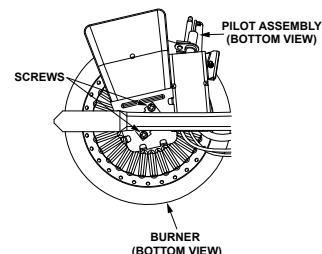

FIGURE 33.
1. Take off the burner by removing the two (2) screws located underneath the burner.
2. Check the burner to see if it is dirty or clogged. The burner may be cleaned with soap and hot water (Figure 33).
- Re-attach the burner. Note the orientation of the burner (Figure 33.)
- Take off the burner by removing the two (2) screws located underneath the burner. See Figure 33.